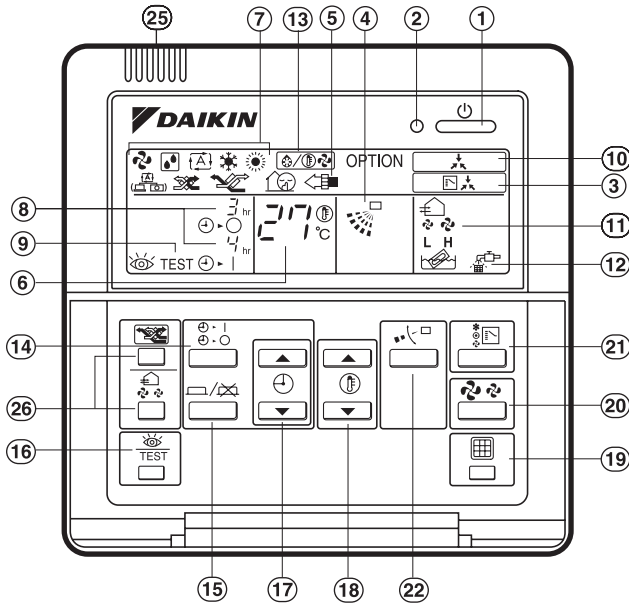

figure 2
1-4 Remote Control and COOL/HEAT Selector: Name and Function of Each Switch and Display (Refer to figure 2 and 3)
- Figure 2 shows the remote control which is opened the cover.
- For FXS, FXM, FXL and FXN, the air flow direction adjust button (22) is not available and the display (4) shows “NOT AVAILABLE” when pressed.